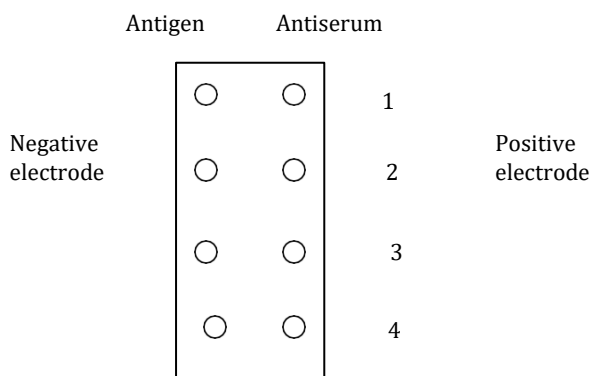

Fig 2: Template for loading of antigen and antiserum onto respective wells
6. Add 10 µl of antigen sample to the wells that will be placed towards the negative electrode and 10 µl of antiserum 1 & 20 µl of antiserum 2 and antiserum 3 samples to the wells towards the positive electrode as shown in figure 2